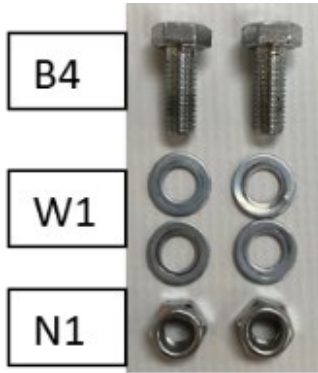

Figure 4
- A. Flip the cart assembly over, install the two bolts (B4), four washers (W1), and two nuts (N1) into the holes shown in figure 4. ***Tighten finger tight for now.**